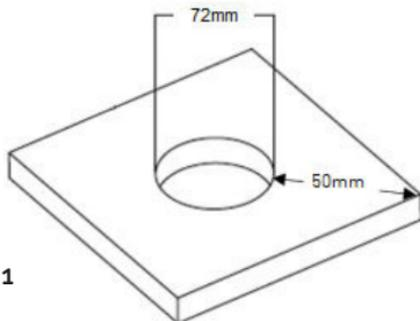

Fig. 1
- Cut a suitable hole in the mounting surface as per the cutout details (see Fig. 1) ensuring not to infringe with any joists, gas/water pipes or electrical cables